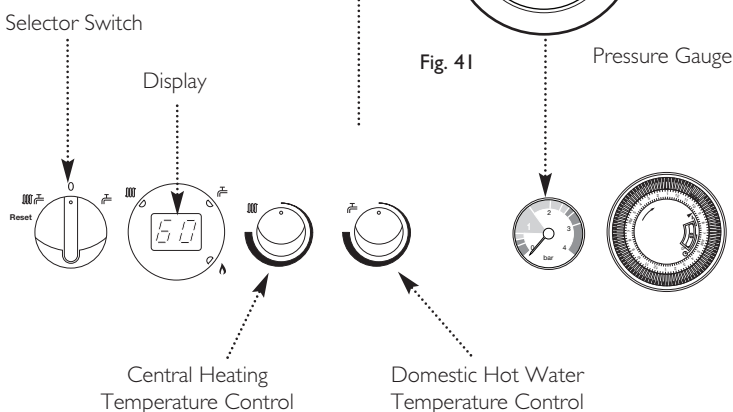

Fig. 41
8. Pressurise the system to 1.5 bar (Fig. 41) then close and disconnect the filling loop.